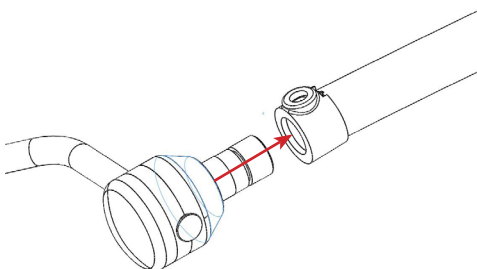

FIGURE 2.14 - Insert Light Head
STEP 4: Slide the light head into the arm, aligning the slot in the light head assembly with the arm slot. Refer to FIGURE 2.14